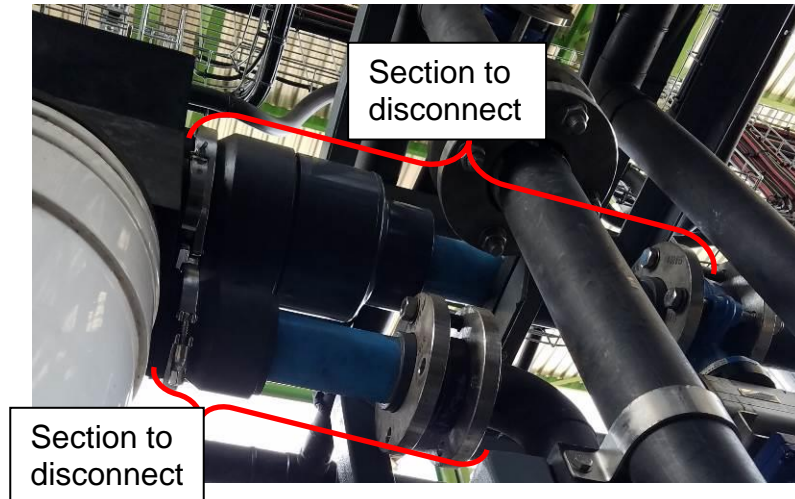

Figure 1: Example of flange connections at end of module that can be disconnected.
4. Disconnect all flange or similar type connections on one side of the rack to be able to separate HYDRAcube headers by approximately 1". See Figure 1. This will be necessary to avoid damaging gaskets and molded parts on the headers.